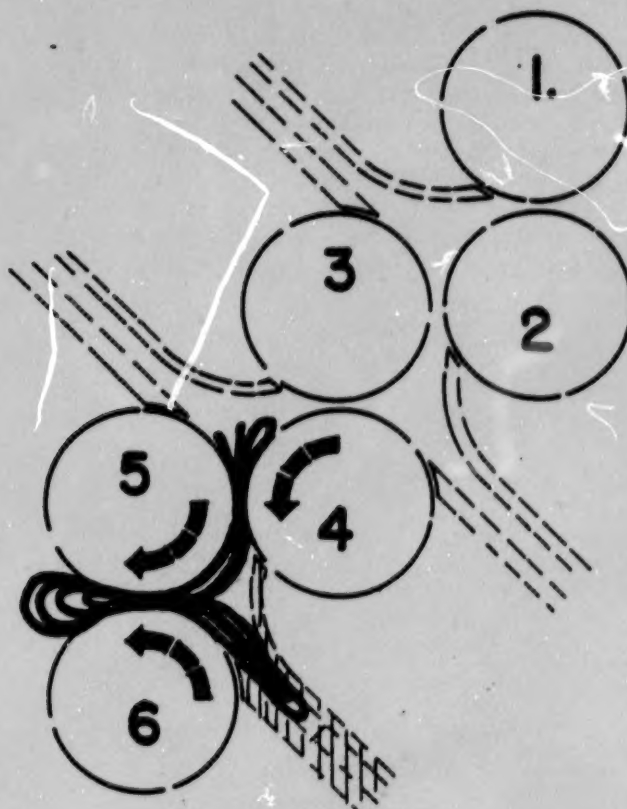

FIGURE 6. FOLDING PROCEDURE STEP 6.
f. Step 6. It strikes the fold plate gauge, buckles, and is drawn into and folded by rollers 5 and 6. The sheet is then advanced by rollers 5 and 6 to the slitter shafts where the signature is now scored, perforated, slit, or trimmed, to meet job requirements....(See Figure 6)